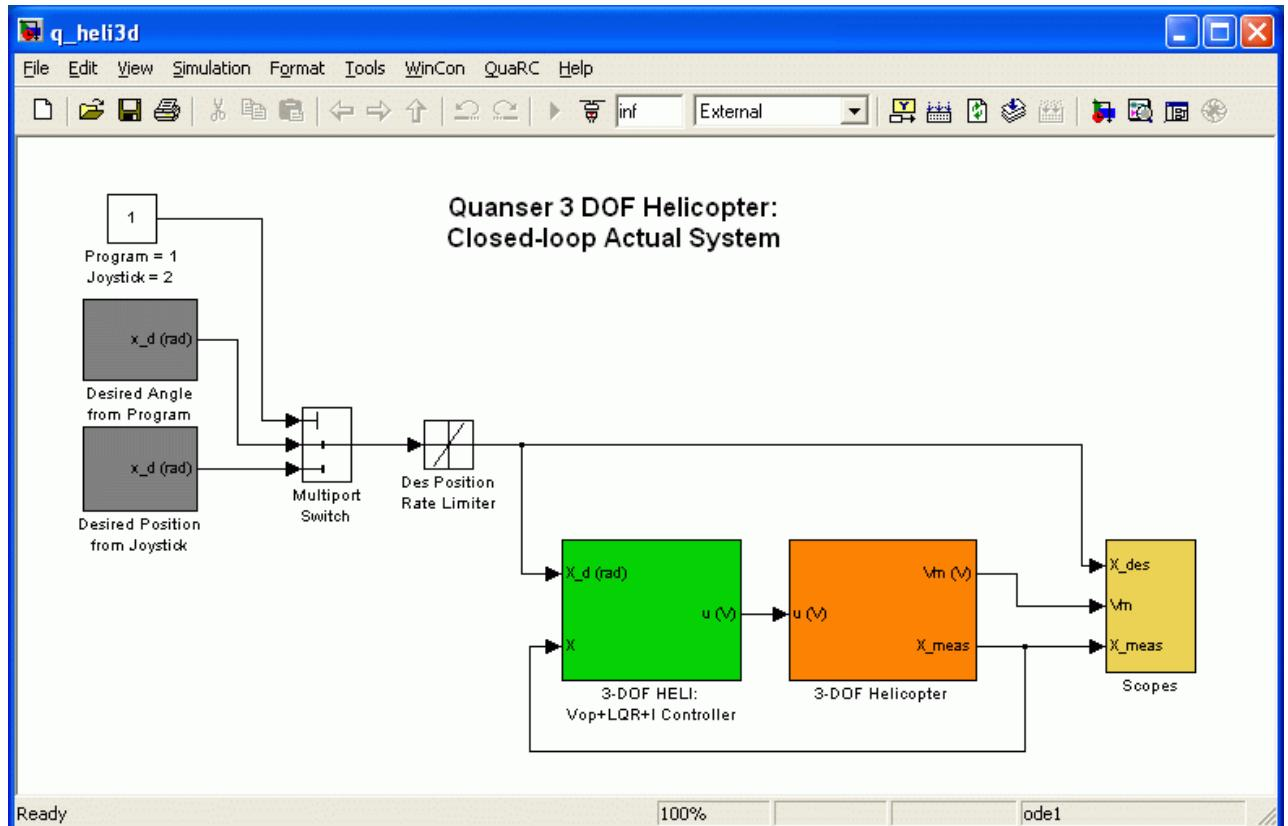
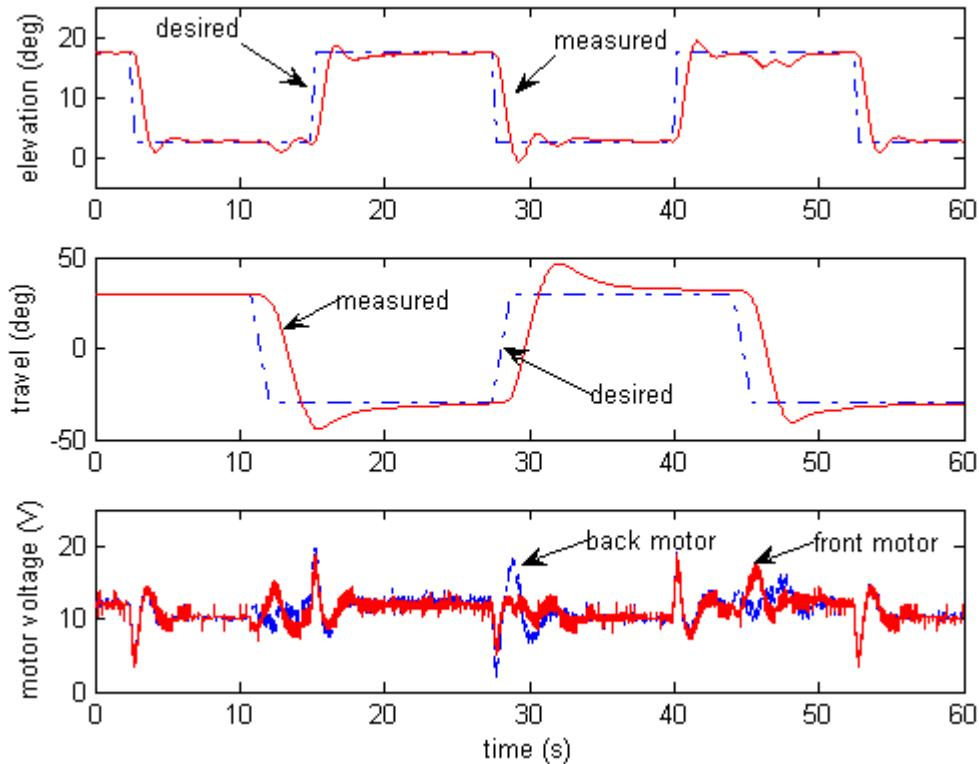

Figure 28: Simulink model *q\_heli3d\_q8* implements the LQR controller on actual 3-DOF Helicopter system.
Figure 30: Typical closed-loop response of 3-DOF Helicopter system.
2. Open Simulink model *q\_heli3d.mdl* shown in Figure 28 that implements a sample LQR controller. The model runs your actual 3-DOF Helicopter plant by directly interfacing with your hardware through the QuaRC blocks, described in Reference [2].
7. The voltage sent to the Analog Output block is amplified by the UPM-2405 and applied to the power amplifier's attached motor. Note that the control input is divided by the amplifier gain,  $K_{CABLE}$ , before being sent to the DACB. This way, the amplifier gain does not have to be included in the mathematical model as the voltage output from the controller is the voltage being applied to the motor. The UPM and DACB saturation blocks limit the amount of voltage that can be fed to the motor. In this case, since  $K_{CABLE} = 5$ , the voltage is only saturated by the UPM and not by the DACB. The  $V_m (V)$  sink is the effective motor input voltage and shows when the amplifier is being saturated.
9. Open the *elevation (deg)*, *travel (deg)*, and *Vm (V)* scopes in the *Scopes* folder. These scopes display both the desired and measured angles of the Helicopter as well as the voltages being applied to the front and back motors.
12. In the *q\_heli3d* Simulink diagram, make sure the *Program/Joystick* block shown in Figure 28 is set to 1 in order to generate the desired angle from Simulink.
17. In the *Vm (V)* scope, the green line is the front motor voltage and the red trace is the back motor voltage. These should be within  $\pm 25V$  and not go negative very often.
18. Figure 30 below is a sample closed-loop position response of the 3-DOF Helicopter when commanding an elevation step of  $\pm 7.5$  degrees at 0.04 Hz and a travel step  $\pm 30$  degrees at 0.03 Hz.
19. Alternatively, the desired angle can be generated using a joystick - either the analog or USB described in Section 5.5. To use the joystick, set the Program/Joystick switch shown in Figure 28 to 2. The rate at which the desired angle increases or decreases given a joystick position can be changed using the K\_JOYSTICK\_X and K\_JOYSTICK\_Y variables that are set in the setup\_lab\_heli\_3d.m script file.
as discussed in Reference [2]. The *3-DOF Helicopter System* subsystem is basically the Simulink model described in Figure 28. The helicopter is not engaged until the Active Disturbance is calibrated.